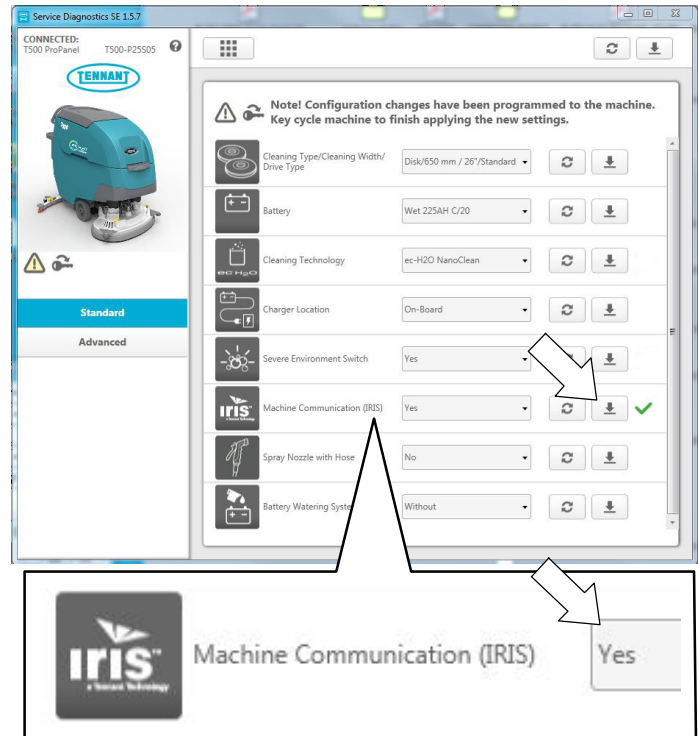

Fig. 22
- From the machine configuration page, select “Yes” for **Machine Communication (IRIS)** (Figure 22). Then press the down arrow button to program the machine. A green check will appear next to the down arrow button when programmed.